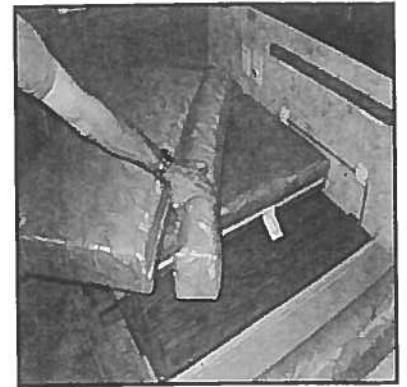

Figure 5-6. Filler Strip Attached to the Seat Portion
4. A “filler strip” (See Figure 5-6) is attached to the seat portion (via a long Velcro strip) of the sofa. Simply pull these two pieces apart. The filler strip can be conveniently stored underneath the dinette until you are ready to re-convert the bed back into a sofa.